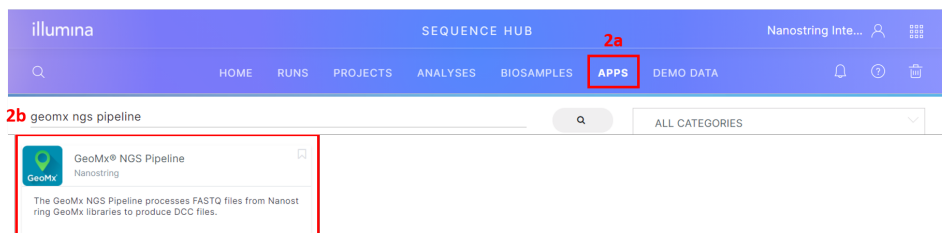

Figure 28: Locate GeoMx NGS Pipeline app
2. Select “Apps”, search for “GeoMx”, and select “GeoMx NGS Pipeline” (see Figure 28).